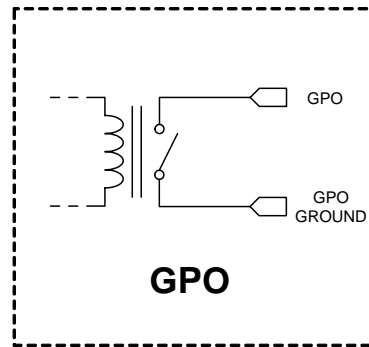

Figure 2-2: General Purpose Output
- GPO:** The 7707OE-3G provides the user with 1 General Purpose Output. It is dry-contact relay closure. The GPO polarity is user selectable normally open or normally closed, and always open on power loss. Figure 2-2 shows the output circuitry. Refer to section 3.3 for electrical specifications.